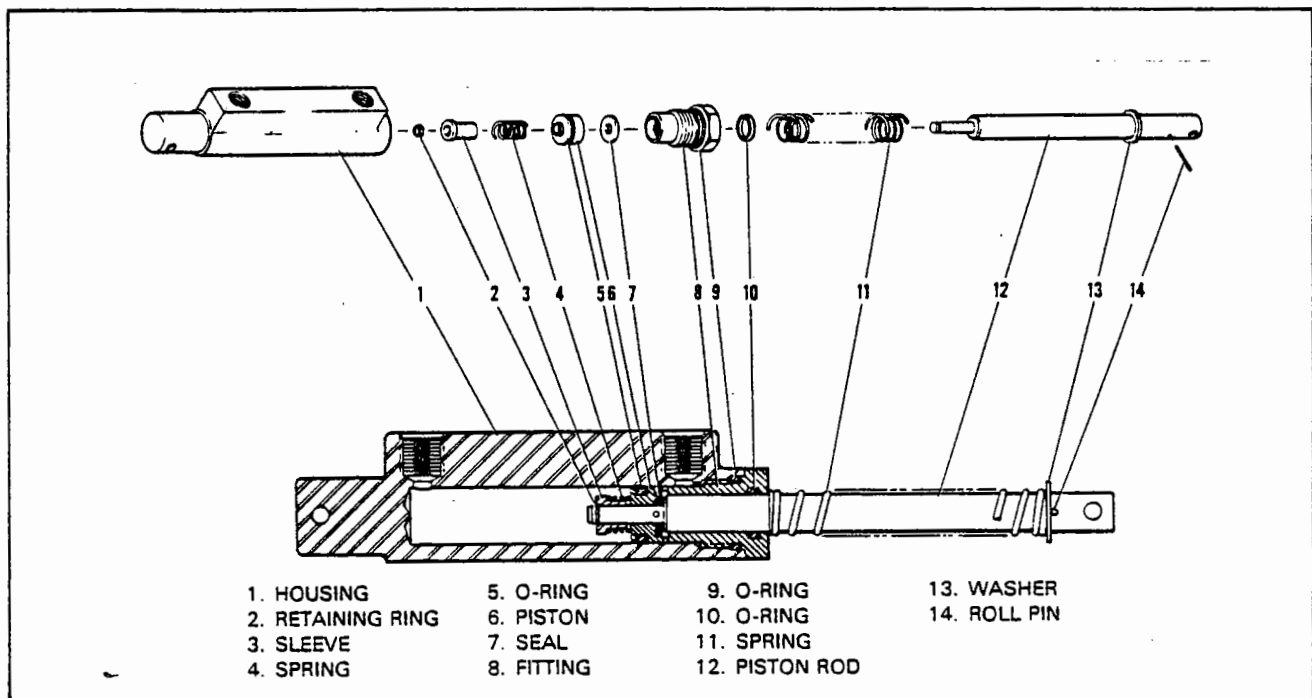

Figure 32-16. Brake Cylinder (17000) (Toe Brake)
2. Gar-Kenyon cylinder number 17000. (Refer to Figure 32-16.)